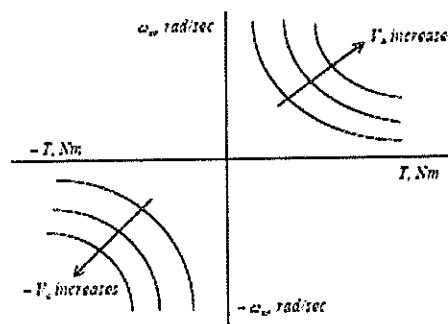

Fig. 2.
b- In Fig.2 the torque-speed characteristics of dc series excited motor with varying the armature voltage is given; explain with supports of equations:
- 1- how the torque-speed characteristic is behaving as shown in Fig. 2? and (8-marks)